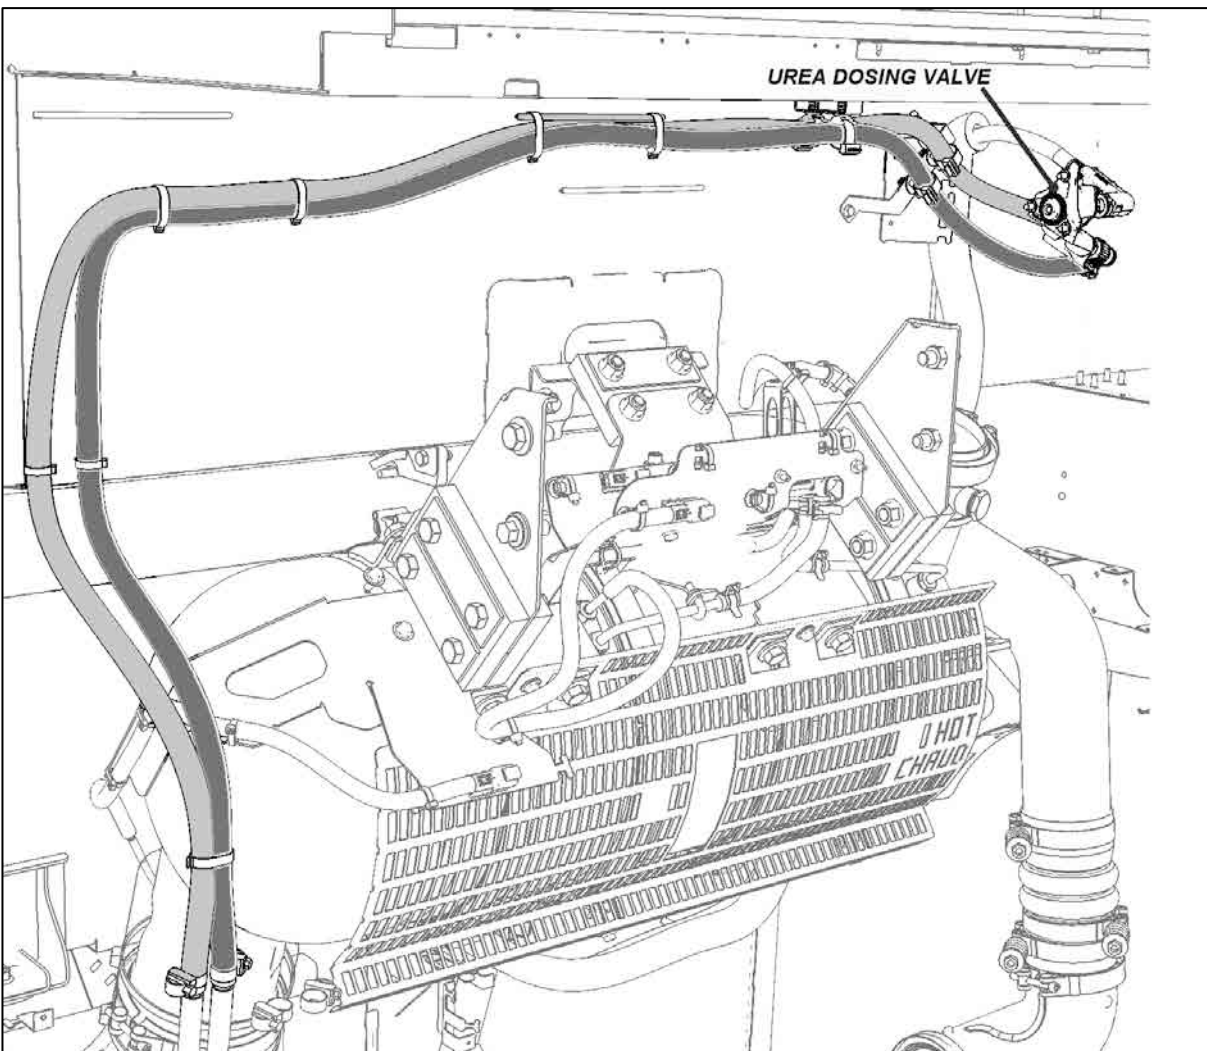

Figure 14
25. Route hoses according to figure 14. *Do not tighten cable ties to allow adjustments.*